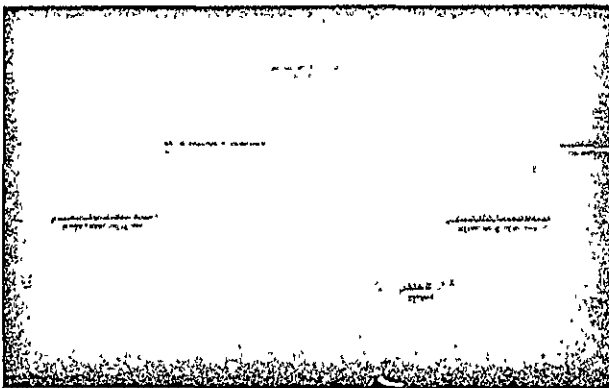

Figure 3-4. SPLITTER V/A INPUT 3-step test signal with interleaved audio
2. Monitor the signal at the front panel SPLITTER V/A INPUT test jacks. Adjust the INTERLEAVER V/A OUT 1 LEVEL control for a composite video signal level of 1.0 V pp at the test jacks (refer to Figure 3-4).
#### 3.3.2.2.3 Splitter V/A Input, Interleaved Audio (Refer to Figure 3-4)